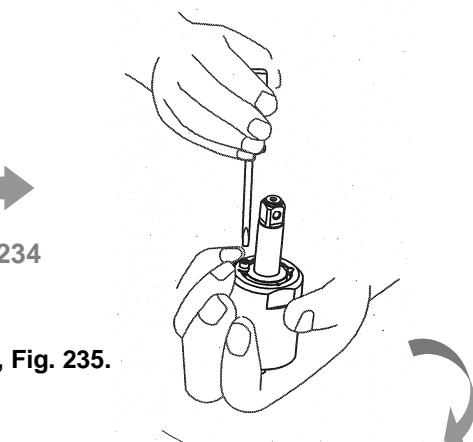

Fig. 235
- ④ Use an air spray gun to blow off the oil on the cylinder seat, Fig. 235.